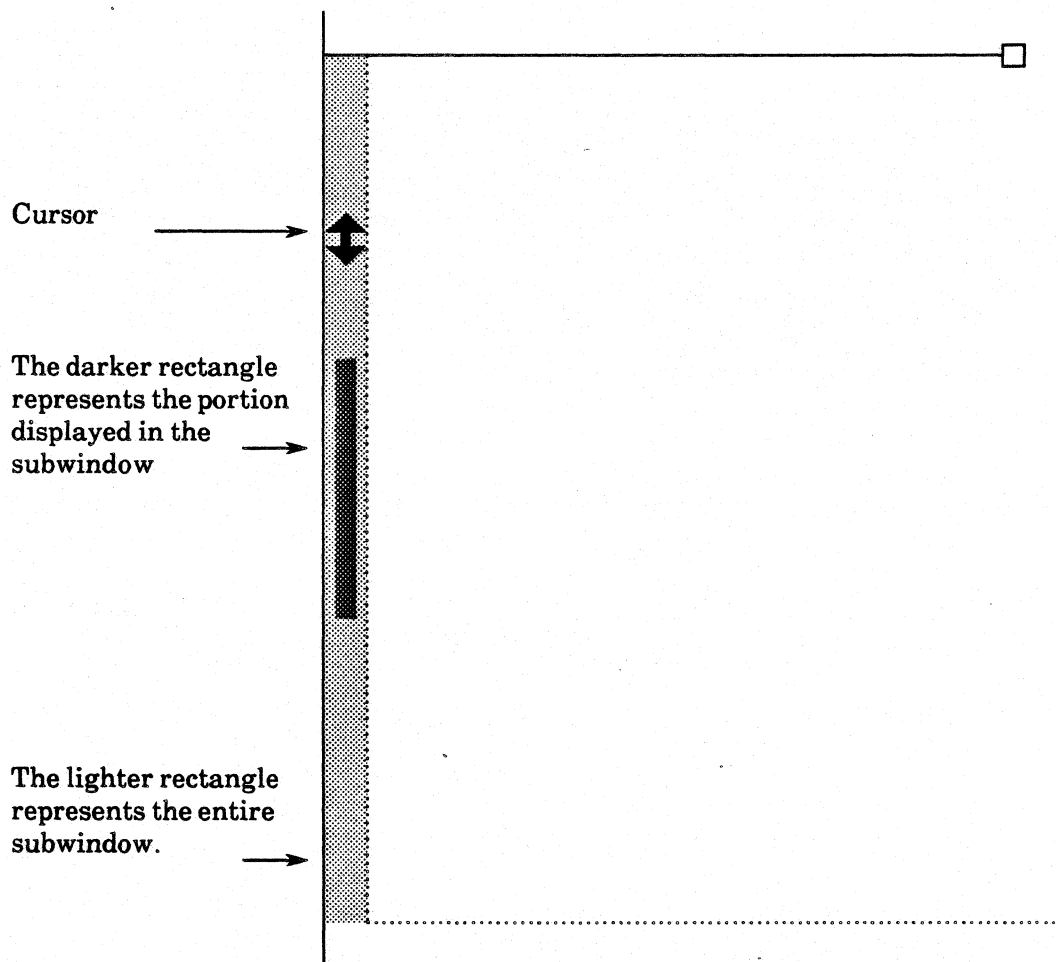

Figure 3.9
- 1) Move the cursor into the scrollbar. You see a shaded rectangle that spans the vertical length of the subwindow, and a smaller, darker rectangle. The lighter area represents the entire subwindow. See figure 3.9. The darker area represents that portion of the information displayed in the subwindow. The cursor changes to a double headed arrow.